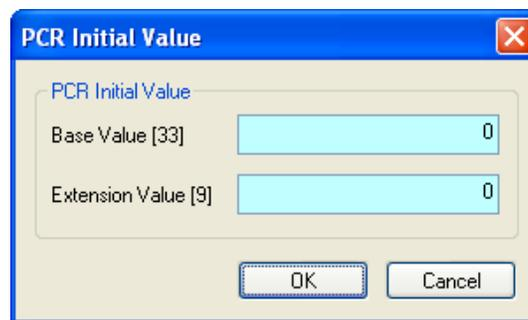

Figure 2-3: PCR Initial Value settings dialog box
8. In the Play menu, click PCR Initial Value... to open the dialog box shown in Figure 2-3.